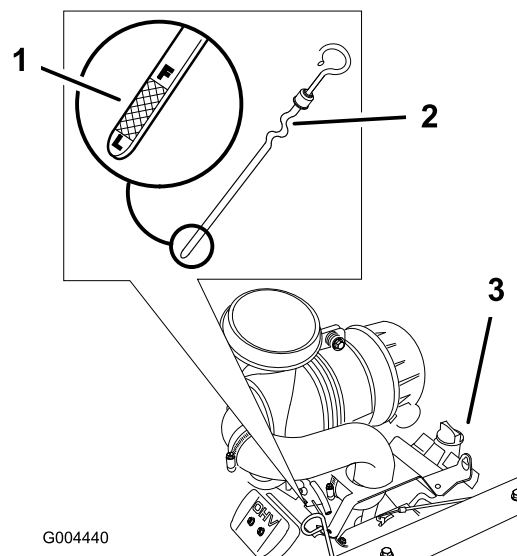

Figure 37
- Clean around the oil dipstick (Figure 37) so dirt cannot fall into engine.
- Pull the oil dipstick and wipe the metal end clean (Figure 37).
- Slide the oil dipstick fully into the engine. Pull the dipstick out and look at the metal end (Figure 37). If oil level is low, slowly pour only enough oil into the filler tube to raise the level to the full mark.
9. Slowly pour approximately 80% of the specified oil into the filler tube (Figure 37).